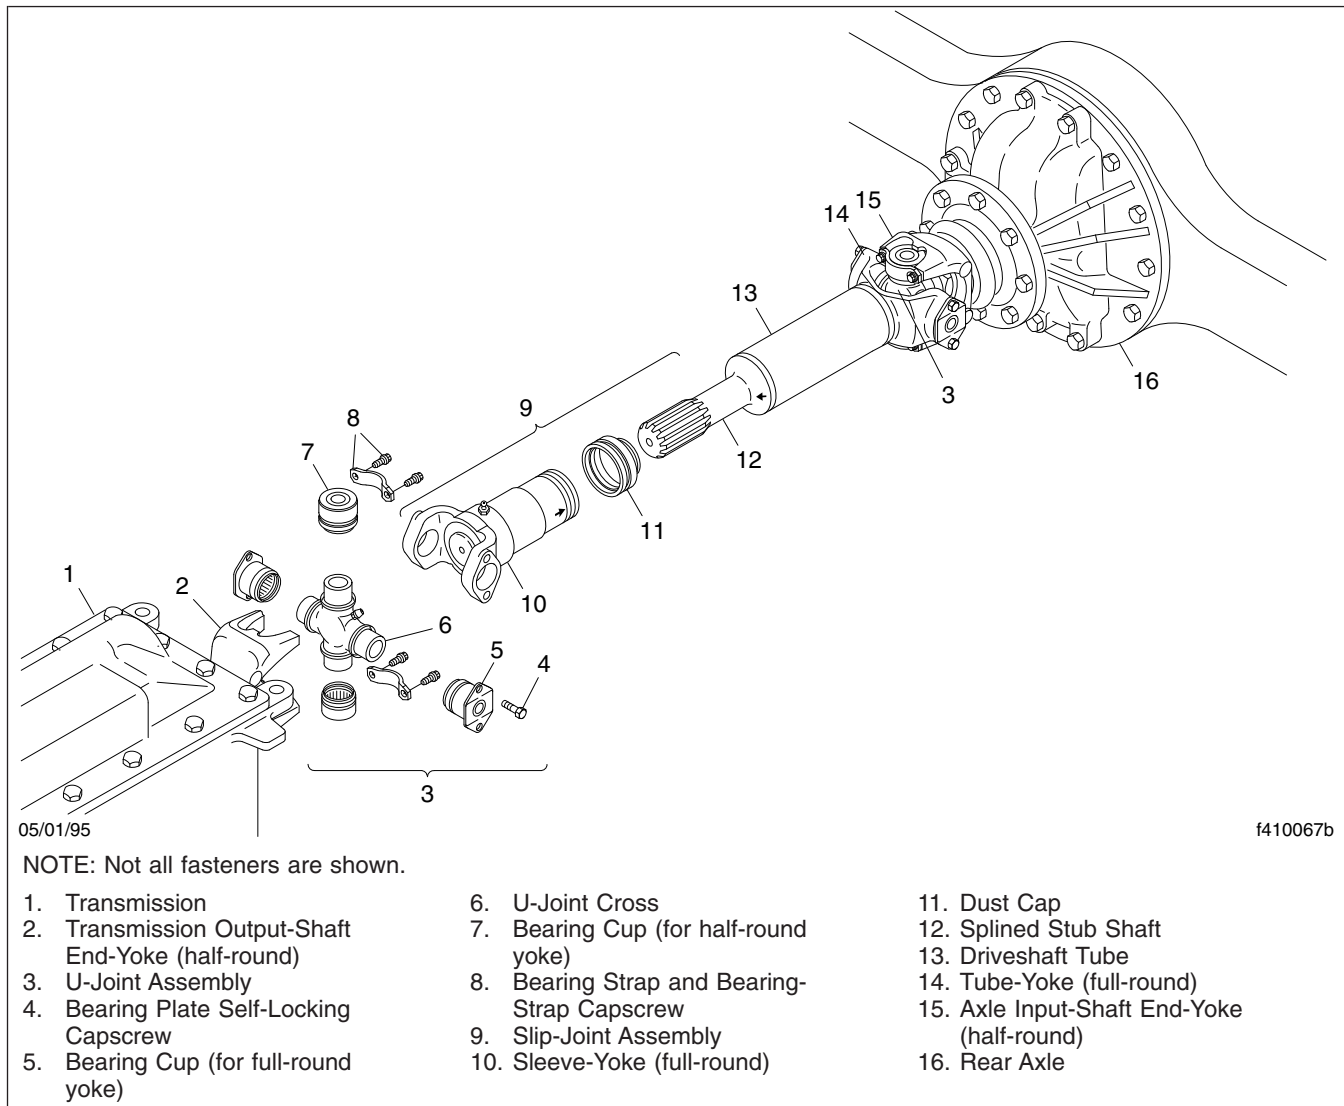

Fig. 2, Components of a Basic Driveline
Half-Round Yokes with Bearing Straps and 3/8-inch Capscrews (see Fig. 2 , Ref. 8)	45–60 (60–80)
Half-Round Yokes with Bearing Straps and 1/2-inch Capscrews (Fig. 2 , Ref. 8)	130–135 (175–185)
3. Check the driveline yokes for cracks, and check end-yokes for looseness; see Fig. 2.